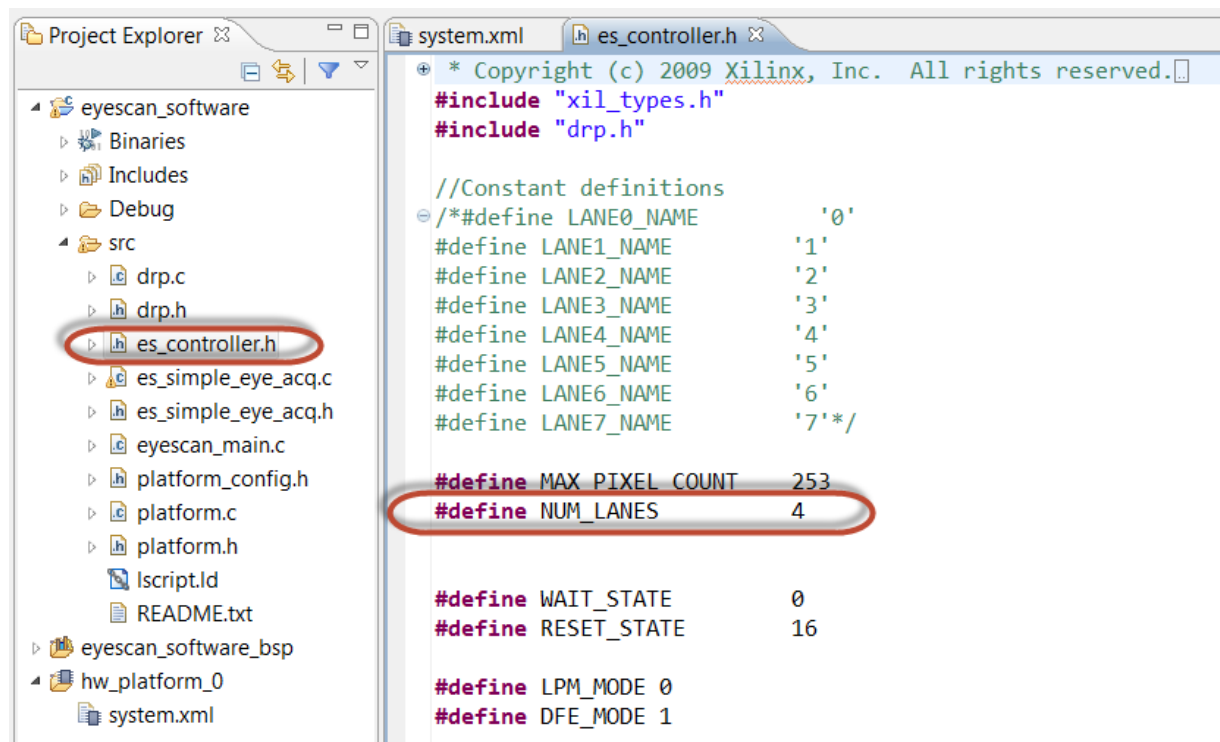

Figure 18: Modifying `es_controller.h` for Different Lane Widths
11. Locate the `es_controller.h` file and change `NUM_LANES` to the appropriate number of lanes. Save the changes and recompile to create a new ELF file in the Debug directory shown in Figure 18.